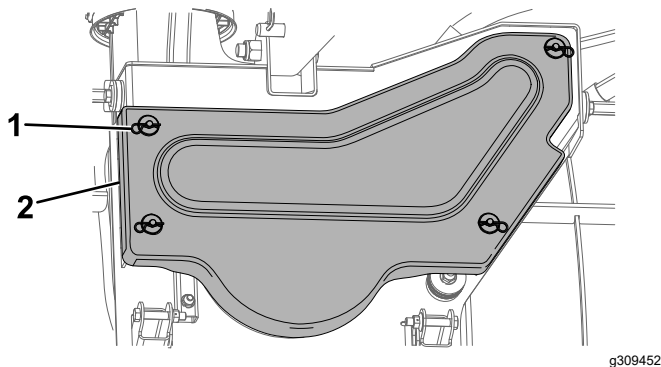

Figure 33
- Remove the 4 hairpin cotters securing the belt cover (Figure 33).
- Install the belt cover and secure it using the 4 hairpin cotters (Figure 33).